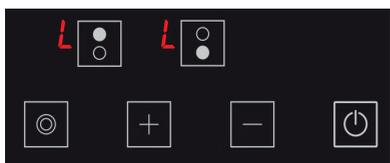

Figure 17
1. The **L** icon is displayed on all displays when the stove is on and the child lock is active. (see Fig. 17) The **L** and **H** icons are displayed alternatively if any hob is hot. You may turn the stove on or off with the **⏏** key only.